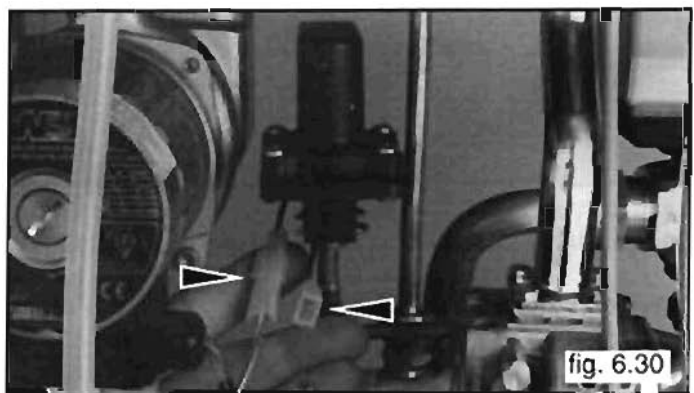

fig. 6.30
- 1 Disconnect electrical wires (see fig. 6.30).